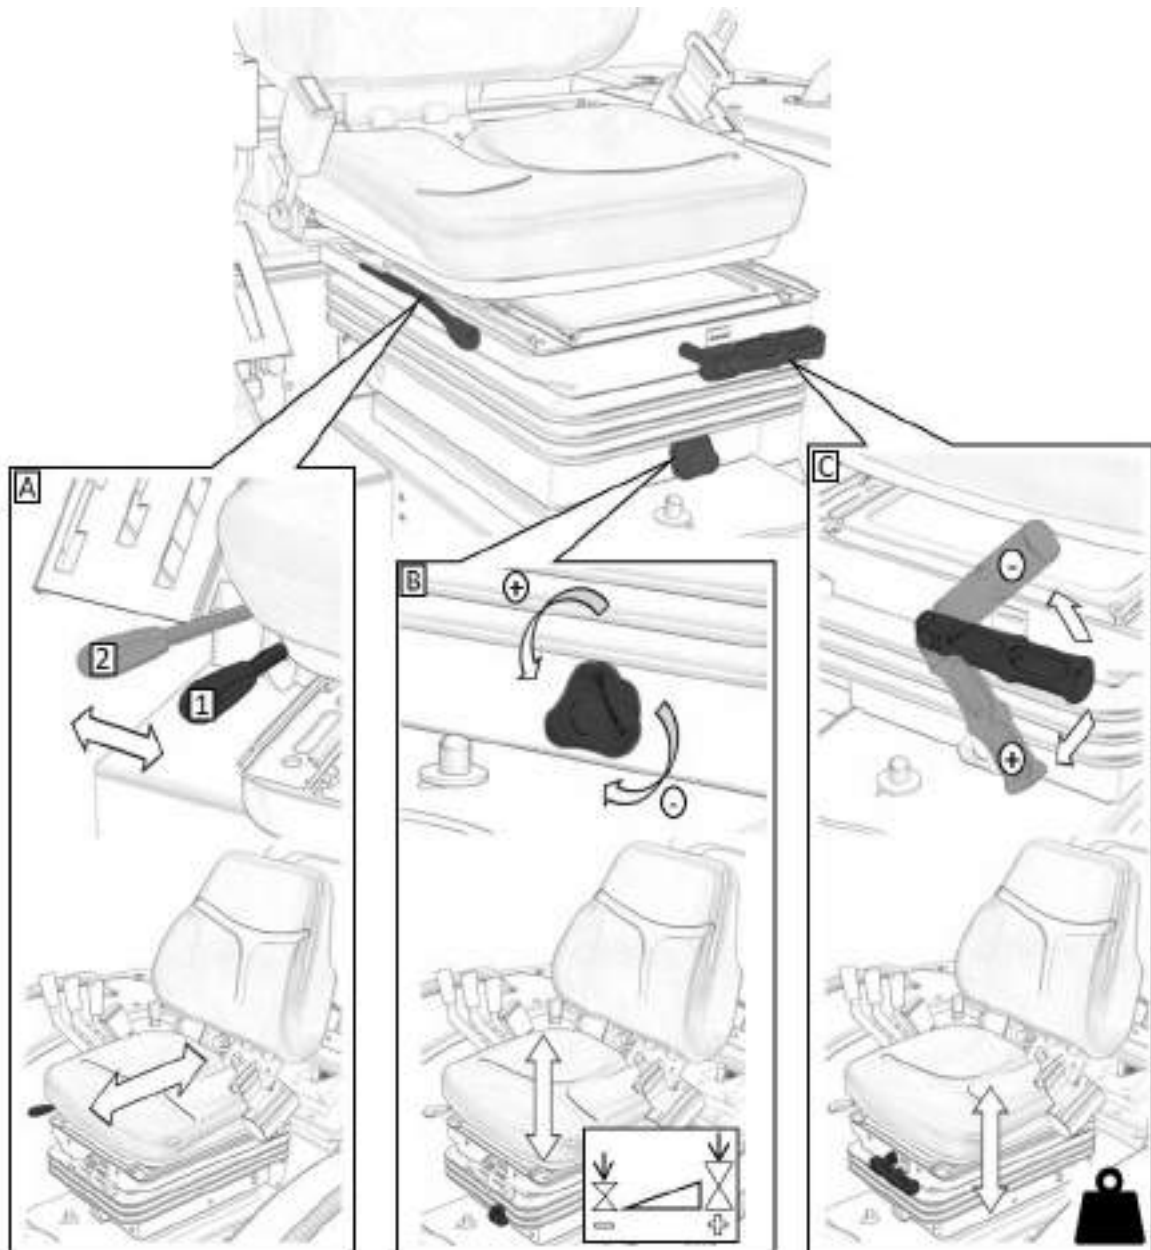

Fig. 115
A) Adjusting the length of the seat, see Fig. 115
B) Adjusting the height of the seat, see Fig. 115
C) Adjusting the suspension of the seat, see Fig. 115